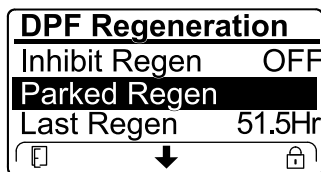

Figure 60
- If the engine computer requests a recovery regeneration or is processing a recovery regeneration and you scroll down to the PARKED REGEN option, parked regeneration locks and the lock icon (Figure 60) appears in the lower right corner of the InfoCenter.